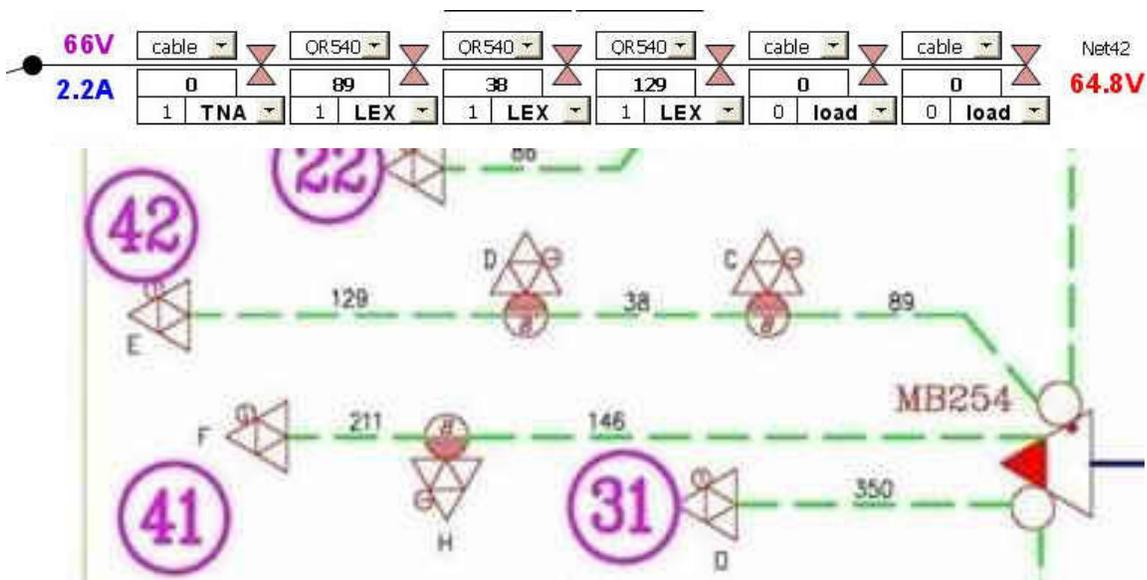

Fig.12 Branch Net42
2. Choose the trunk MB254 and line extenders C, D and E for the branch Net42. Set the active elements and cable spans as shown in the Fig.12